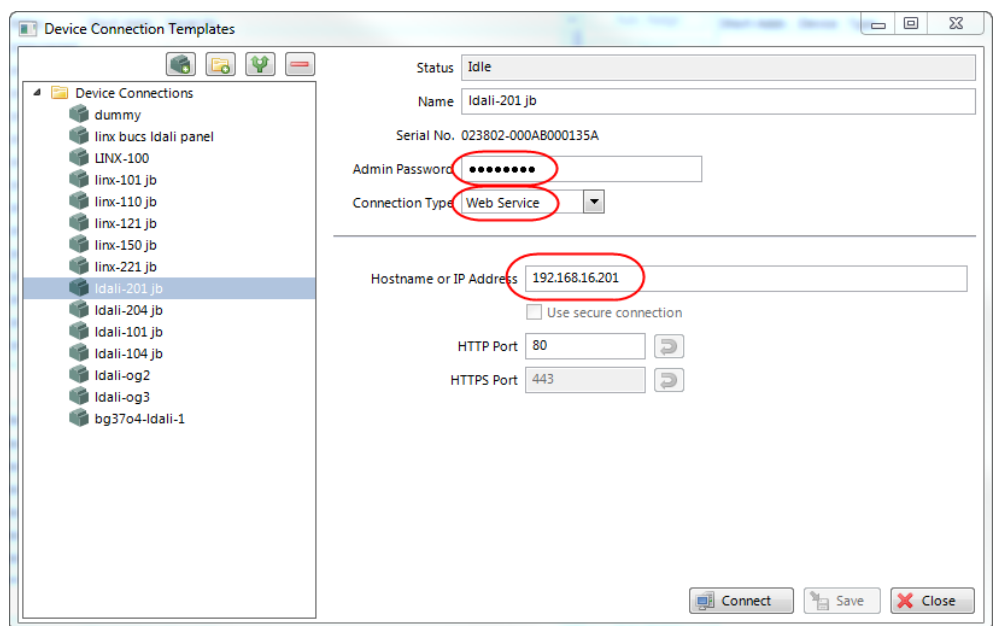

Figure 34: LINX Configurator software, Connection Dialog.
2. In the Connection dialog (see Figure 34) choose connection type “Web Service”, enter the IP address or hostname of the L-DALI and the devices “admin” password. The default “admin” password is ‘loytec4u’ (older firmware versions used ‘admin’).